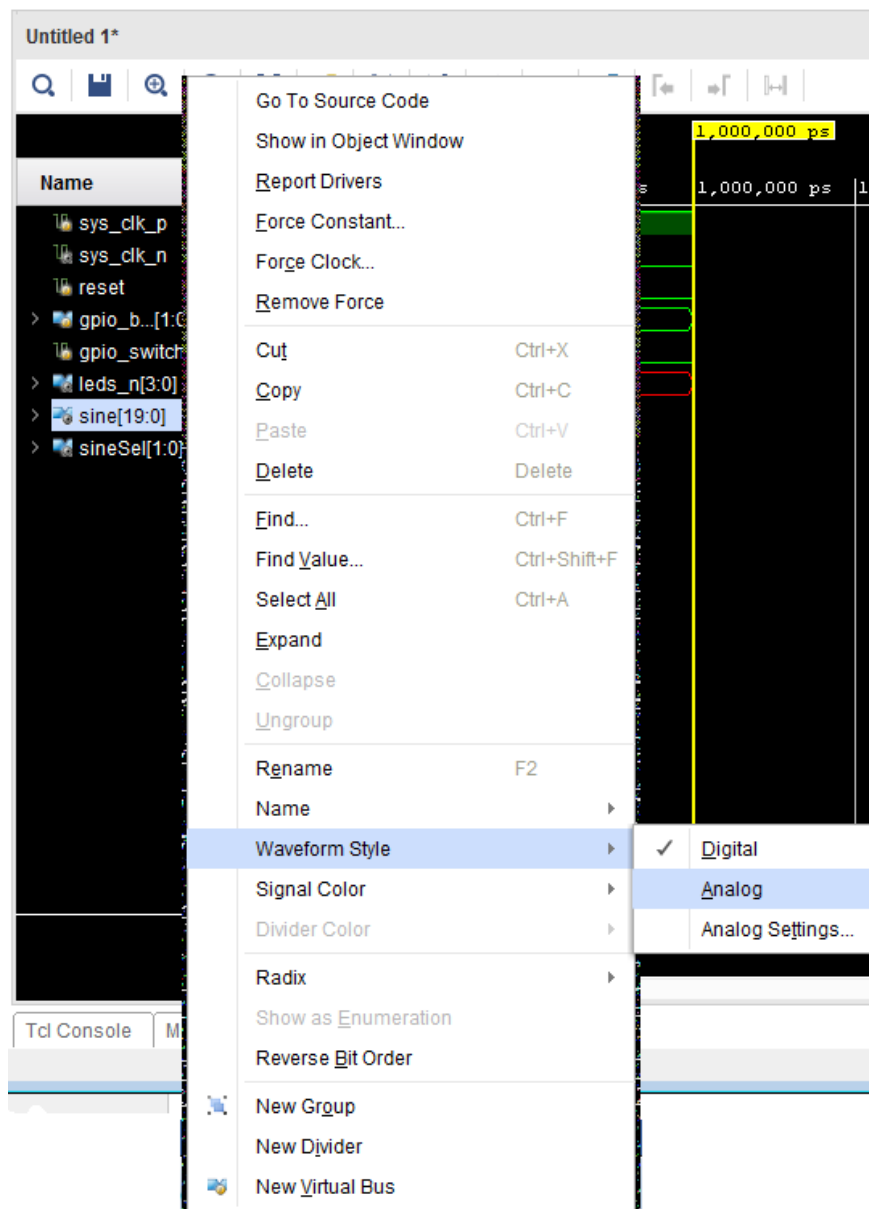

Figure 17: Enable Analog Waveform Style
2. Right click to open the popup menu, and select **Waveform Style > Analog**, as shown in Figure 17.